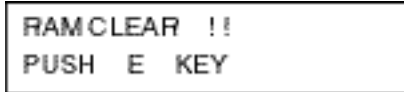

Figure 6
6. Attach the paper cutter. See Figure 6.